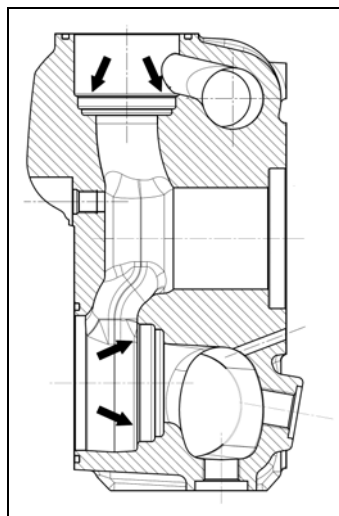

fig. 144
Before repositioning the valve unit, thoroughly clean and dry the relative housings on the head indicated by the arrows (pos. ①, fig.144).